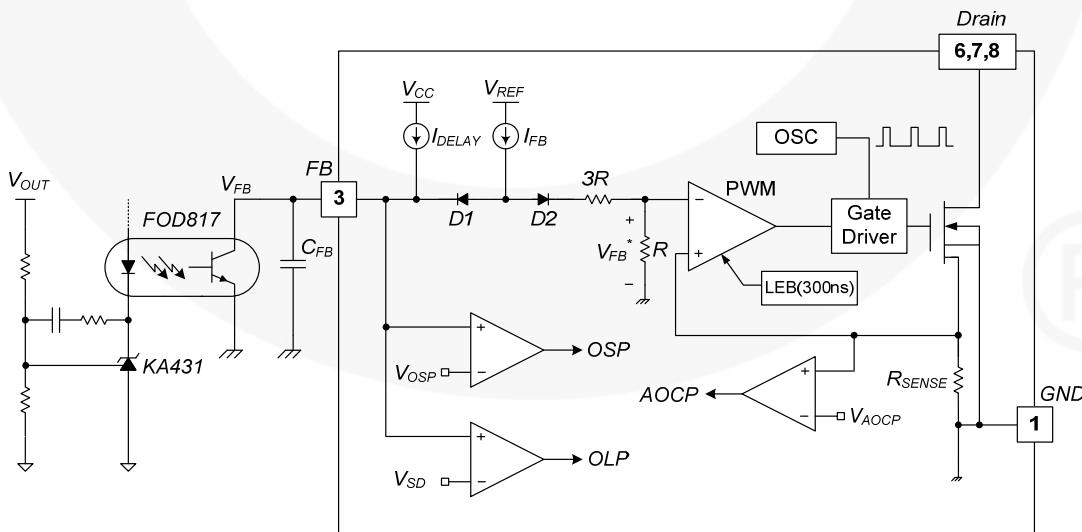

Figure 20. Pulse Width Modulation Circuit
3. Feedback Control: This device employs Current-Mode control, as shown in Figure 20. An opto-coupler (such as the FOD817) and shunt regulator (such as the KA431) are typically used to implement the feedback network. Comparing the feedback voltage with the voltage across the R_{SENSE} resistor makes it possible to control the switching duty cycle. When the reference pin voltage of the shunt regulator exceeds the internal reference voltage of 2.5V, the opto-coupler LED current increases, pulling down the feedback voltage and reducing drain current. This typically occurs when the input voltage is increased or the output load is decreased.
3.1 Pulse-by-Pulse Current Limit: Because Current-Mode control is employed, the peak current through the SenseFET is limited by the inverting input of PWM comparator (V_{FB}^*), as shown in Figure 20. Assuming that the 90 μ A current source flows only through the internal resistor ($3R + R = 25\text{k}\Omega$), the cathode voltage of diode D2 is about 2.8V. Since D1 is blocked when the feedback voltage (V_{FB}) exceeds 2.8V, the maximum voltage of the cathode of D2 is clamped at this voltage. Therefore, the peak value of the current through the SenseFET is limited.